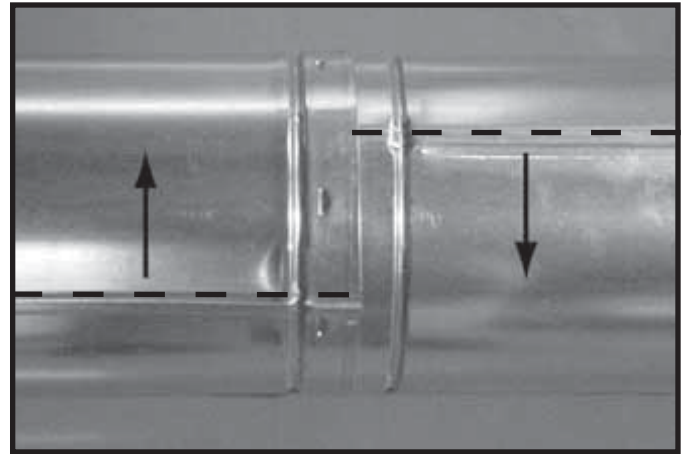

Figure 7.10 Rotate Seams for Disassembly
- Rotate either section (see Figure 7.10) so the seams on both pipe sections are aligned as shown in Figure 7.11